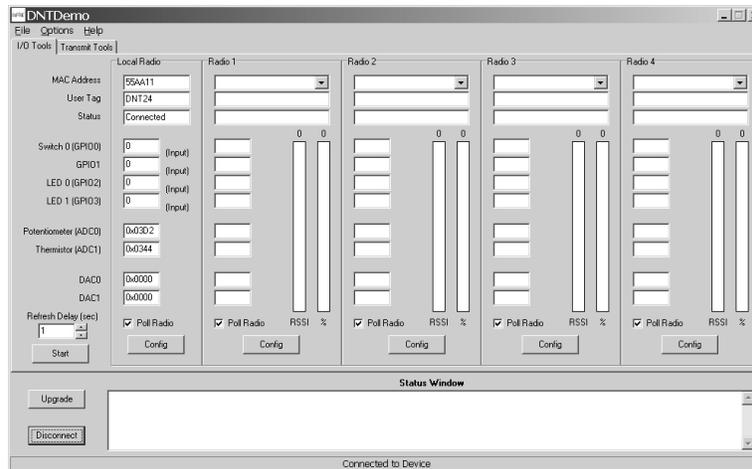

Figure 6
- At this point the Demo will collect data from the *Base*, filling in the *Local Radio* column on the Demo window as shown in Figure 6.